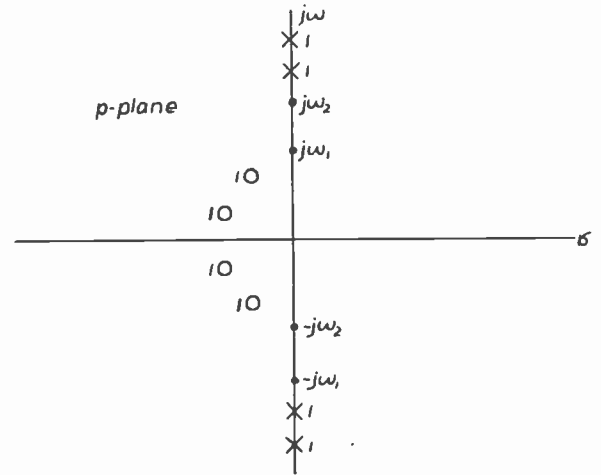
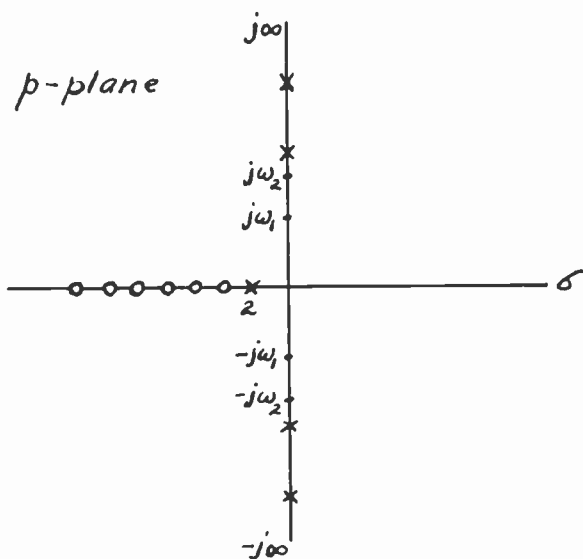

Fig. 7— $T(p)$. Low-pass transfer function.
Fig. 9—Poles and zeros of 6-pole RC filter transfer function.
Half of each pole on the $j\omega$ axis and all poles and zeros in the right-half plane are discarded. This is why we started out with eight units each of positive and negative charge instead of only four, as might seem logical for the synthesis of a four-pole function.⁶ This step leaves us with the desired transfer function $T(p)$ having four poles on the $j\omega$ axis and four complex zeros (see Fig. 7). It is readily seen that $H(p) + C = T(p)T(-p)$ and $|T(j\omega)| = \sqrt{H(j\omega) + C}$. Therefore the amplitude of $T(p)$ for steady-state frequencies will vary as the square root of the amplitude in Fig. 1.
The transfer function shown in Fig. 7 can be realized in an LC network terminated in a resistance load. In
most cases an LC filter is preferable, but now suppose a similar low-pass characteristic is required for an extremely low-frequency application. Then the size of coils in an LC filter would become impractical and an RC filter becomes desirable. As bibliographical reference 5 shows, for $T(p)$ to be realizable in a passive RC network all of its zeros (points of infinite gain) must lie on the negative real axis, and they must be simple. Since the zeros in the transfer function shown in Fig. 7 occur at complex frequencies, this transfer function cannot be realized in a passive RC network.
they extend equally above and below zero. The corrected function $H_2(p)$ is then squared (as was done in footnote 6). This gives double poles and zeros. If no buffer amplifier is to be used, we must have simple zeros on the real axis and a small real constant is subtracted from $H_2(p)$ to separate the zeros.⁸ Then the right half plane poles and zeros are discarded, as in the LC case, and our 6-pole RC filter transfer function is shown in Fig. 9.
Observe that though the double pole on the real axis of Fig. 9 is necessary for RC realizability, it tends to decrease rather than increase the attenuation ratio of the filter. For this reason, it can easily be shown that the attenuation of the 6-pole RC function in Fig. 9 must be less than that of the 4-pole LC function of Fig. 7, assuming both to have the same per cent ripple in the pass band and the same ratio ω_1/ω_2 . From (5), (6), (7), and (8), it is evident that transfer functions having an odd number or two times an odd number of poles (and zeros) will give the best attenuation ratios. However, even in those cases, as the number of poles is in-